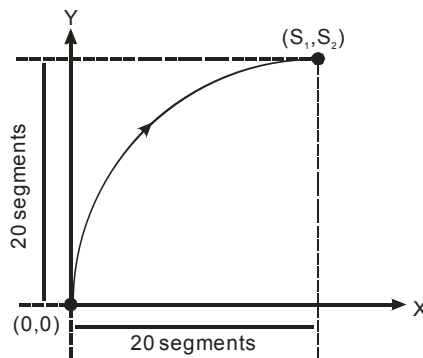
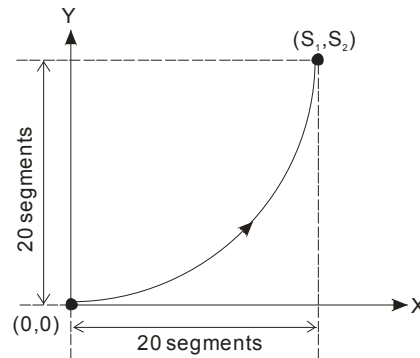

Figure 7
Figure 8
3. The lower 16 bits of **S** (the settings for the direction and resolution): K0 refers to clockwise 20-segment output for a 90° arc (see figure 7). K1 refers to counterclockwise 20-segment output for a 90° arc (see figure 8).